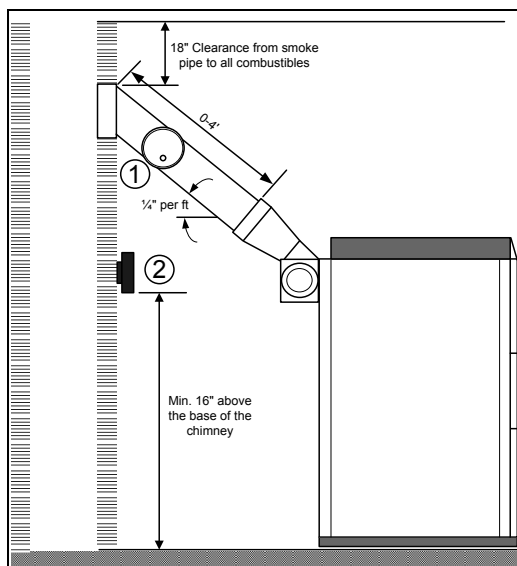

Fig 3.1
The smoke pipe connecting the boiler to the chimney flue must be black or stainless, have a minimum thickness of 24 gauge, and rise a minimum of 1/4" per foot of run toward the chimney (**Fig3.1**). Smoke pipe sections must be attached to one another with a minimum of three sheet metal screws and sealed with high-temp silicone. The smoke pipe should not contain more than two 90° elbows (45° elbows are preferred over 90° elbows).
- Recommended draft regulator locations are shown in **Fig 3.1** (position 1 or 2). The optimal position is position 2.